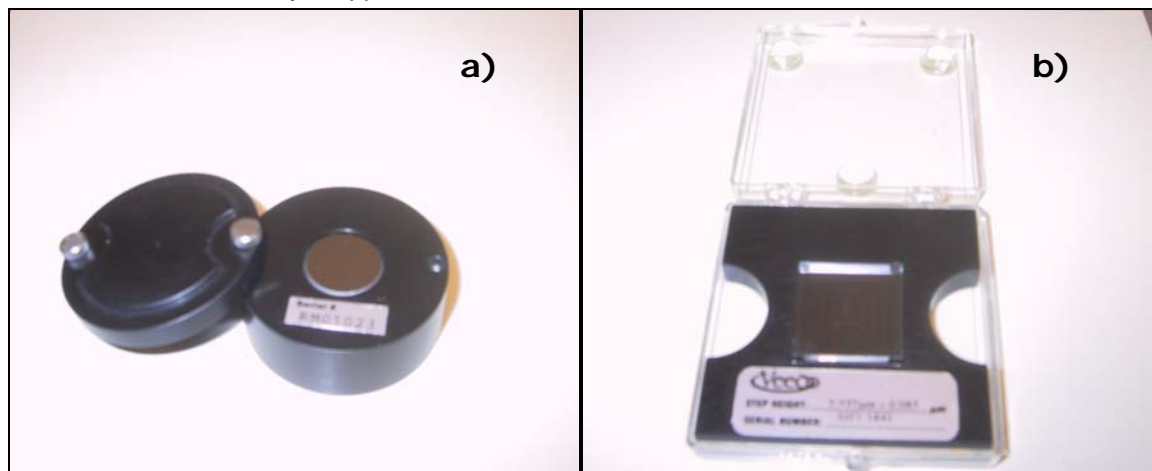

Figure 3
- 9.5.1 Place the appropriate calibration standard under the microscope objective and focus on the surface. Best focus is when the fringes have maximum contrast. For calibration purposes, it does not matter which objective you use. Lower-power objectives (i.e. 10X) are often easier to work with because of the larger field-of-view and depth-of-focus. Figure 3 shows the two types of calibration standards. These standards are very expensive, a few thousand dollars, and should only be cleaned by staff. Do not touch the surfaces of the standards. The VSI standard has already been broken due to misuse. Fortunately the step structure is still in tact so it can still be used. Please be careful when focusing the microscope.